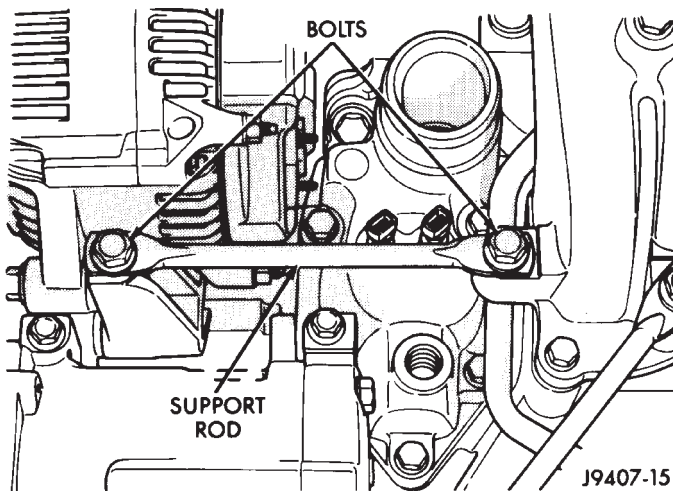

Fig. 72 Support Rod—8.0L V-10 Engine
(1) Disconnect negative battery cable at battery.
(2) Drain cooling system until coolant level is below thermostat. Refer to Draining Cooling System in this group.
(3) Remove the two support rod mounting bolts and remove support rod (intake manifold-to-generator mount) (Fig. 72).